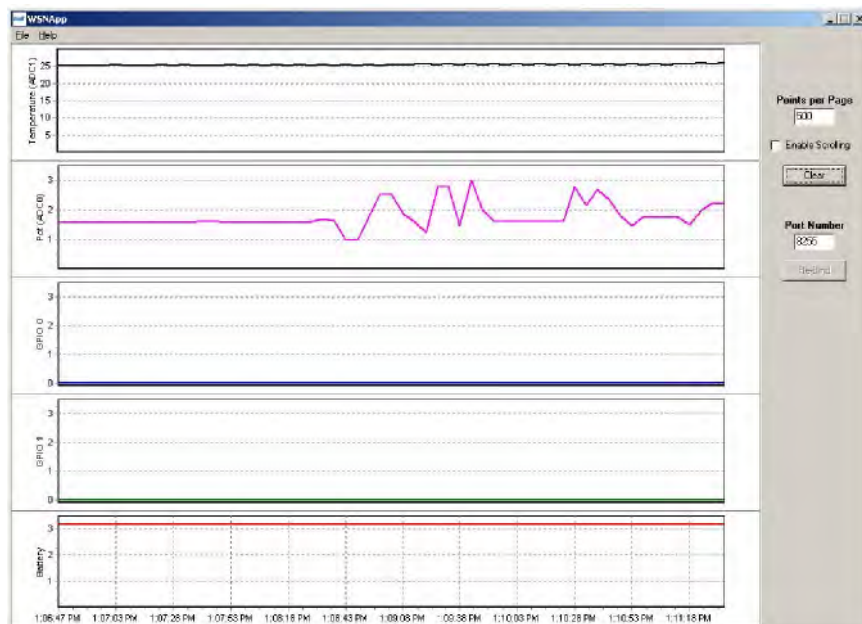

Figure 8.3.5
8. Start *WSNApp.exe*. Data will automatically begin filling the charts at a 10 s update interval, with data first appearing 20 to 30 s after starting the program. Adjusting the pot on the developer board can be observed in the *Pot (ADC0)* chart, as shown in Figure 8.3.5. The developer kit is now ready for use.